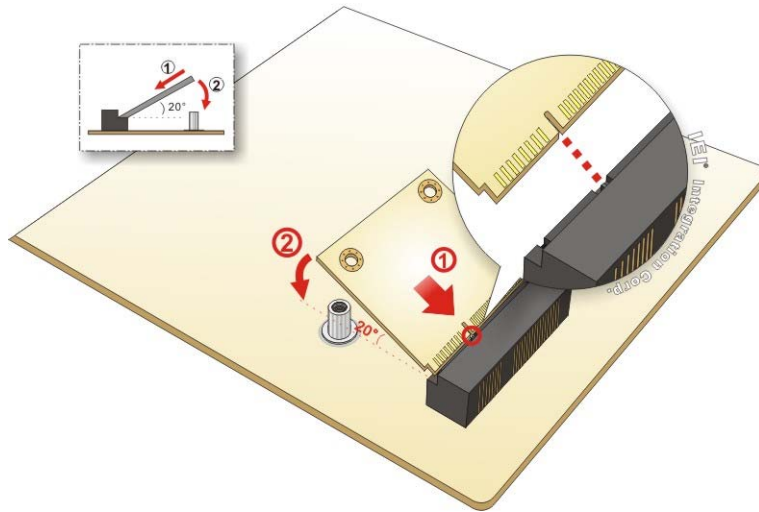

Figure 4-8: Inserting the Half-size PCIe Mini Card into the Slot at an Angle
Step 3: Line up the notch on the card with the notch on the slot. Slide the PCIe Mini card into the slot at an angle of about 20° (Figure 4-8).